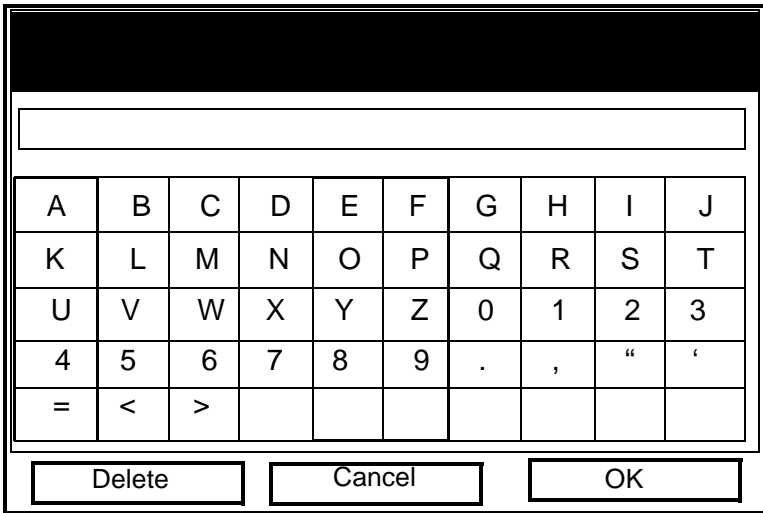

Figure 4-16: The Text Creation Window
- a. Press [ENTER] to open the text creation window, which appears similar to Figure 4-16 below.